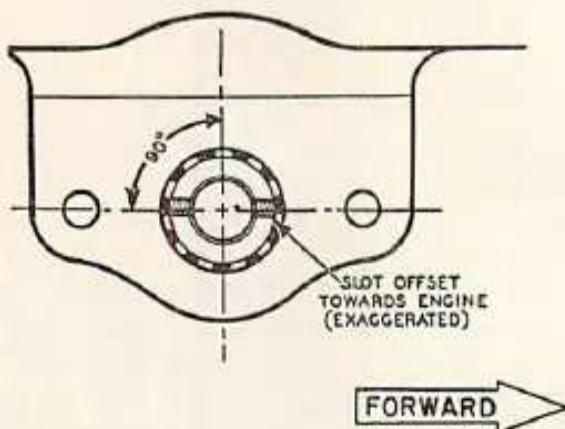

Fig. O64 — When installing oil pump in non-diesel models, slot in drive gear must be timed. Refer to text.
86. On non-diesel models, remove the ignition distributor and turn the engine to where the No. 1 piston is at TDC on compression stroke. Then, install oil pump with slot in drive gear positioned as shown in Fig. O64. Reinstall and time ignition distributor as outlined in paragraph 145.